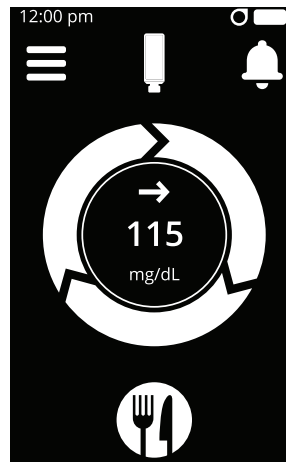

Figure 30
- a. From the **Home** screen, tap the **Menu** icon in the upper left corner (see Figure 30)